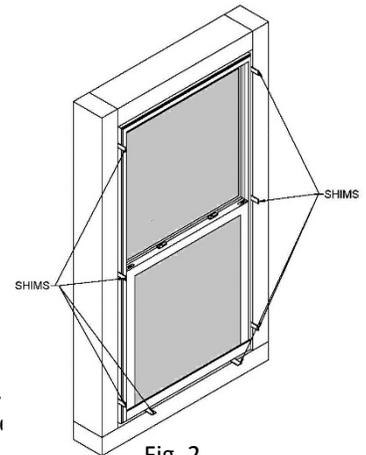

Fig. 2
10. Set the window, center it, and place temporary shims under the sill leaving 1/4" space on top. (Fig.2)
13. Shim jambs in the middle and near top and bottom. (Fig.2) Shims must be cut to exact thickness and should not bind or fall out. A properly shimmed window will measure the same diagonally from corner to corner